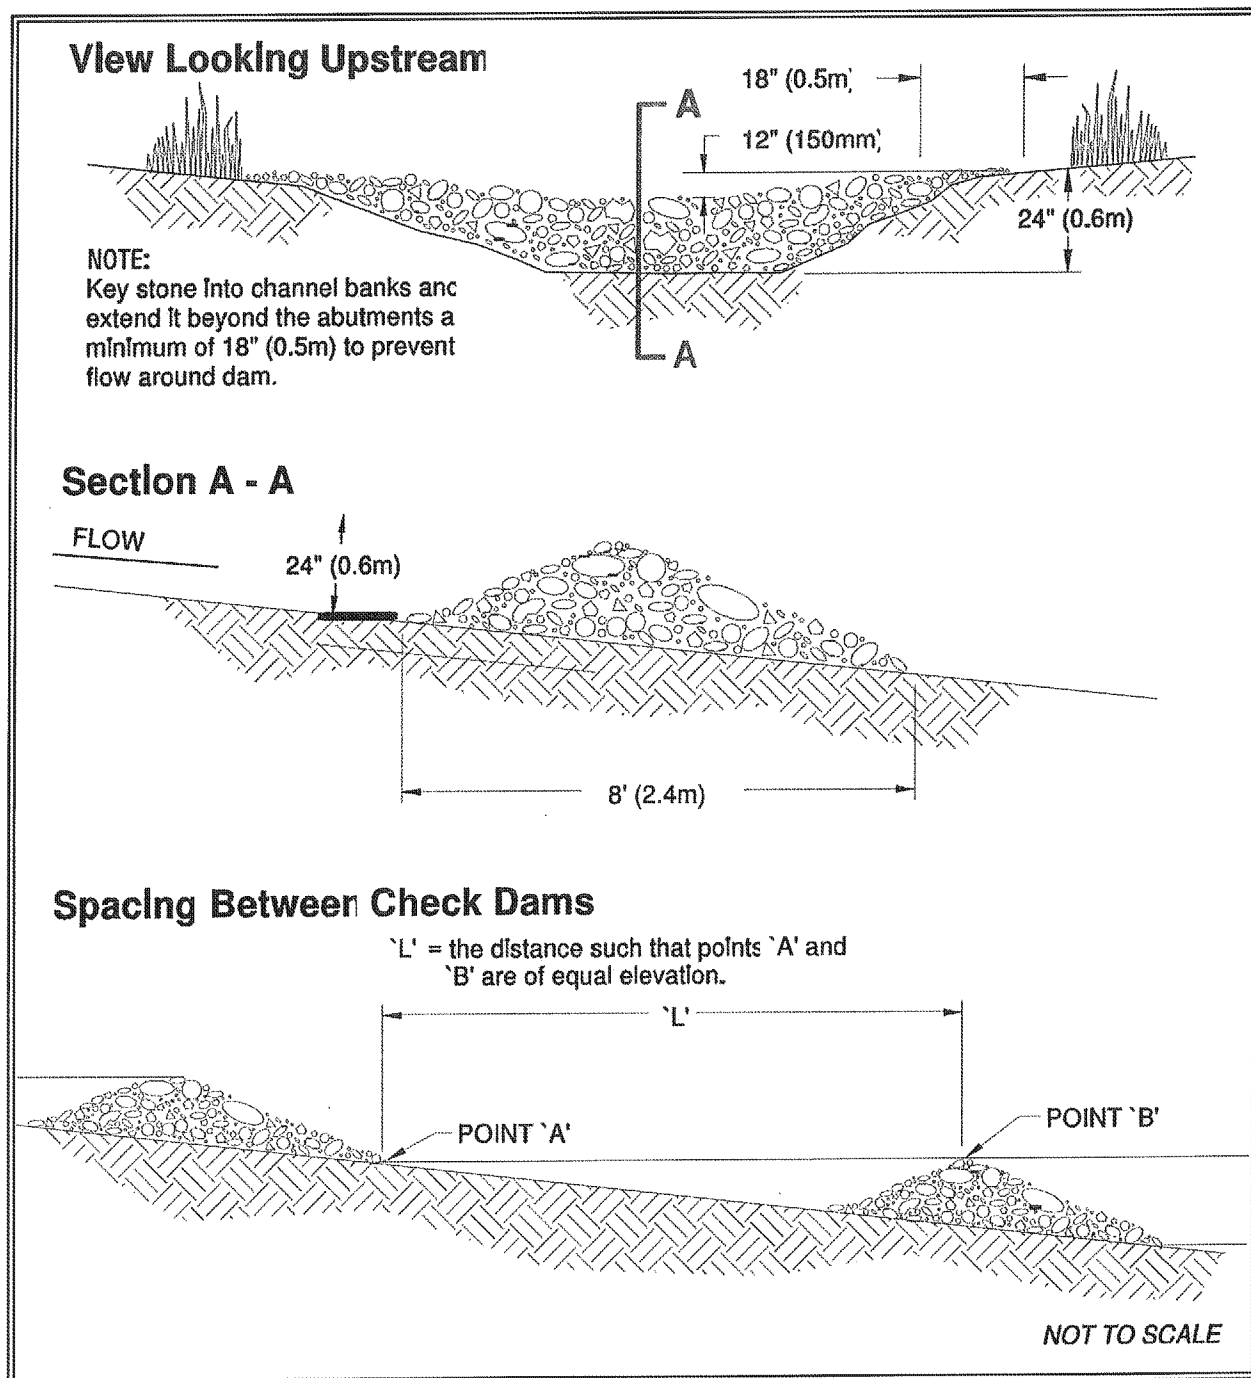

Figure 4.2.7 – Rock Check Dam
- Ensure that channel appurtenances, such as culvert entrances below check dams, are not subject to damage or blockage from displaced stones. Figure 4.2.7 depicts a typical rock check dam.